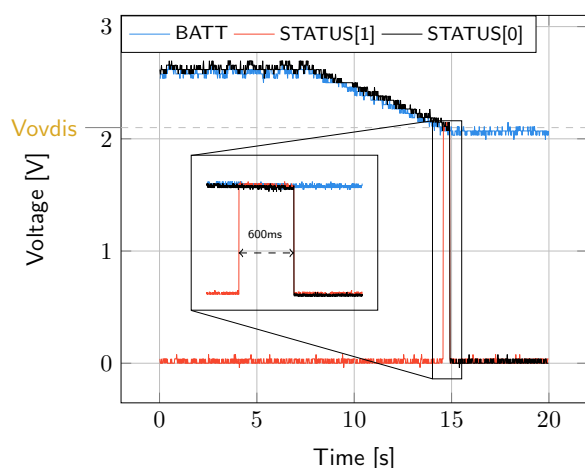

Figure 4: LDOs disabled around 600 ms after **BATT** reaches **Vovdis**
- **BATT**: Voltage decreases as the system consumes the power accumulated in the storage element. The voltage remains stable after crossing **Vovdis** (see Figure 4).
- **STATUS[0]**: De-asserted when the LDOs are no longer available as the storage element is running out of energy. This happens 600 ms after **STATUS[1]** assertion (see Figure 4).
- **STATUS[1]**: Asserted for 600 ms when the storage element voltage (**BATT**) falls below **Vovdis** (see Figure 4).